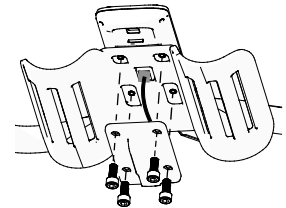

Figure 2
4. Secure the console using four socket head screws through the back plate and into the console case (Figure 2).